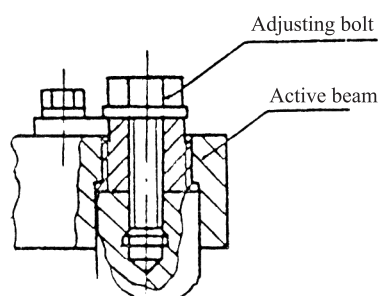

Fig.10-2
(3) Make use of the set bolt of the right lift cylinder cap (See Fig.10-2) to eliminate the difference in height between the right and left cylinder caps.